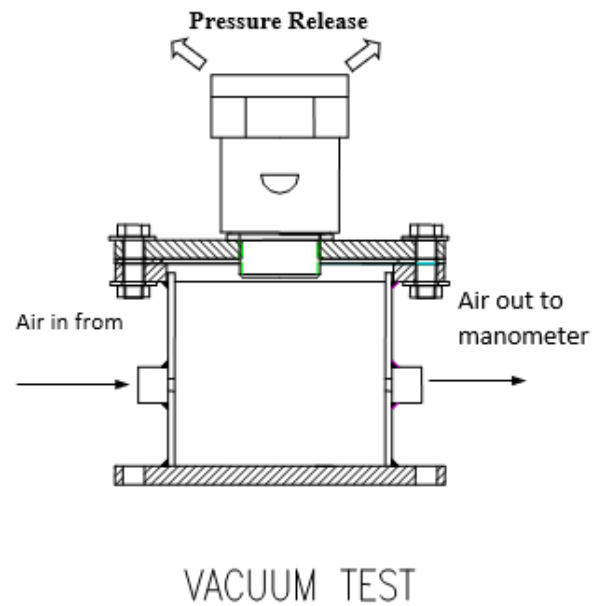

Figure 2
- 1.2.1. Screw the Normal Vent into the lid of the test tank as shown in figure 2.
- 2.2.1. Screw the Normal Vent into the lid of the test tank as shown in figure 2.